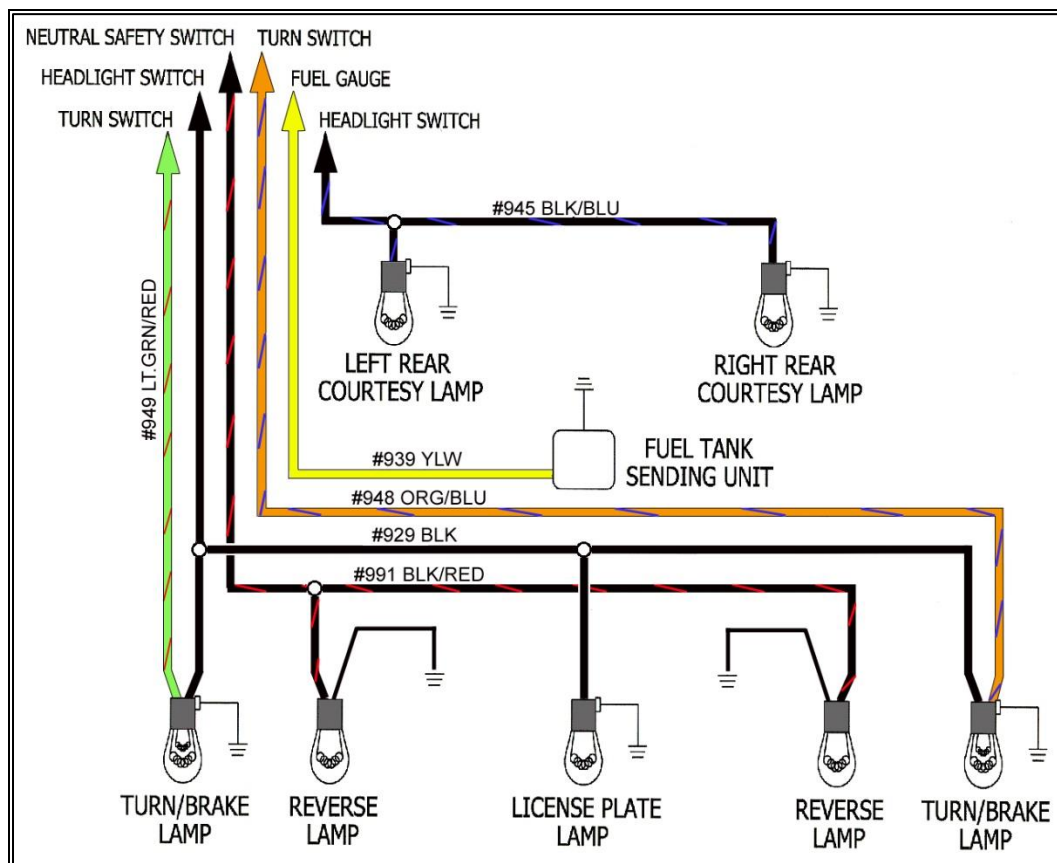

Figure 31 Tail Section Wiring
- Connect the wires in the TAIL SECTION according to **Figure 31**.